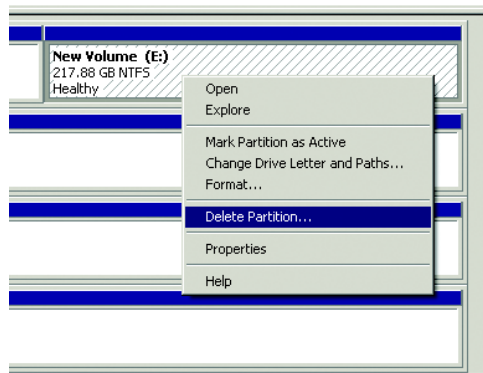

Figure 23. Delete Partition
- Click Delete Partition. The Delete dialog box appears (refer to Figure 23).